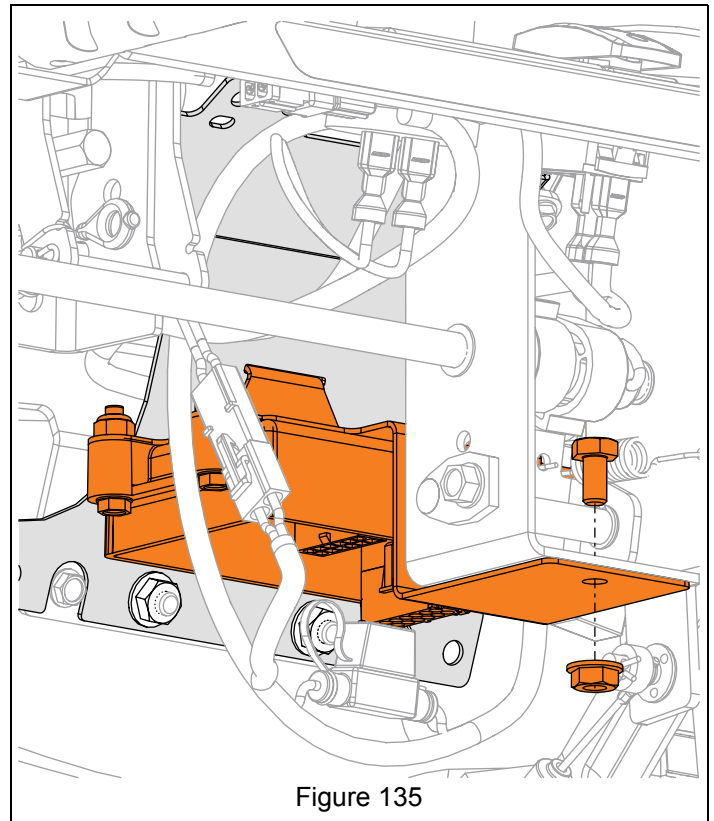

Figure 135
4. Reinstall ECU and secure to dash panel with original hardware. See Figure 135.
2. Secure ECU bracket to dash panel with original hardware. See Figure 135.